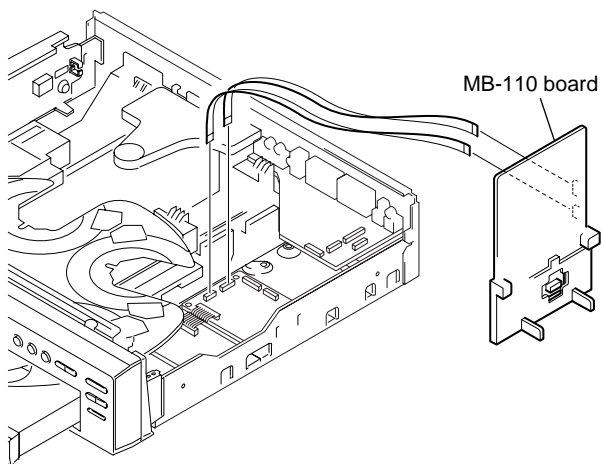

Fig. 11
- 5) Set the four flexible flat cables as shown in Fig. 11.